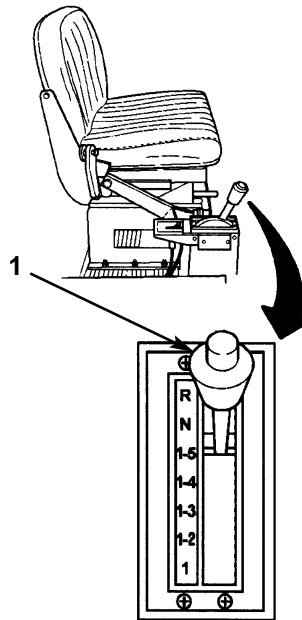

Figure 3. Placing Tractor in Motion.
3. Place transmission control lever (figure 3, item 1) in desired gear range. Refer to TM 9-2320-283-10, Use of Transmission Gear Ranges.